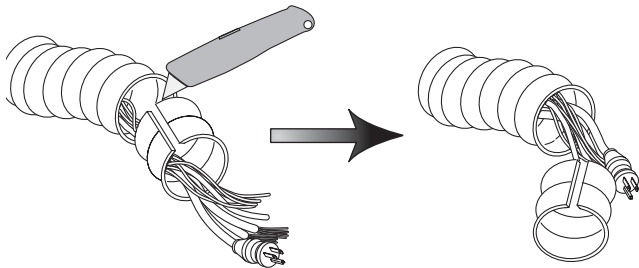

Figure 11
- b. Slit the excess umbilical convolute sheathing lengthwise and around the circumference (see Figure 11). Do not cut the internal tubing or wiring. Discard the excess sheathing.